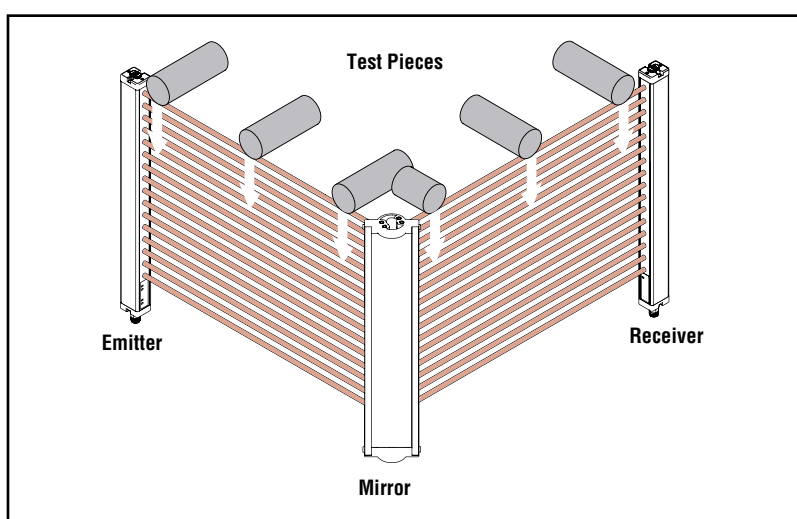

Figure 2. EZ-SCREEN Type 2 trip test for corner mirror applications
- *If corner mirrors are used in the application, the beams must be tested in three places on each leg of the beam path (between emitter and mirror, and also between mirror and receiver, Figure 2).*